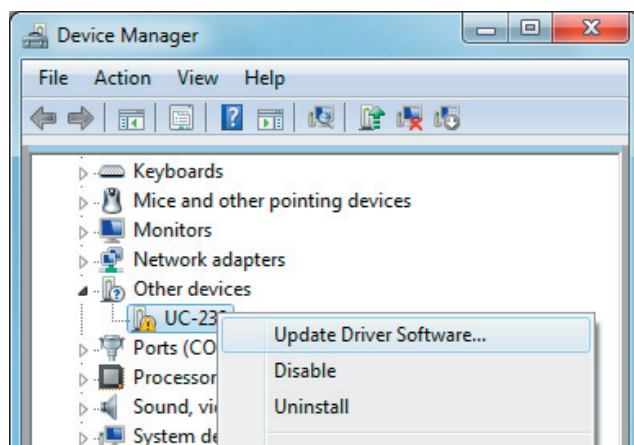

Fig. 11. Device Manager - Update Driver Software.
- 4) Right click on the other device (UC-232 in this example) to bring up a menu as shown in Figure 11. From the displayed menu select “Update Driver Software...”